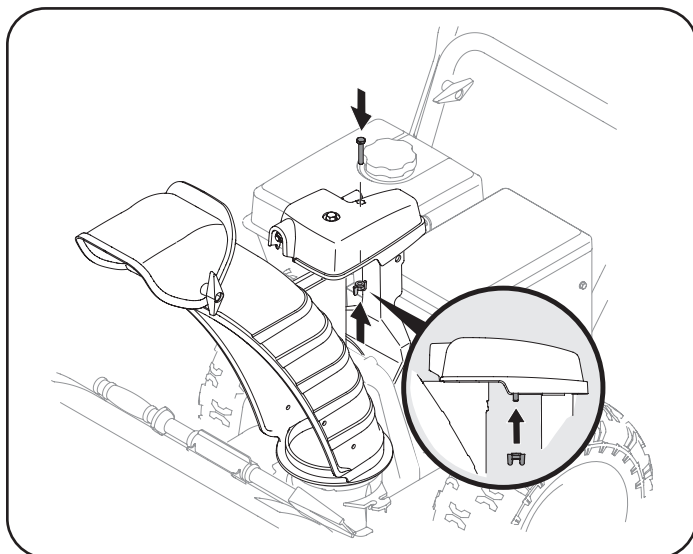

Figure 15
3. Finish securing chute control head to chute support bracket with wing nut (a) and hex screw (b) removed in Step 1. See Figure 15.